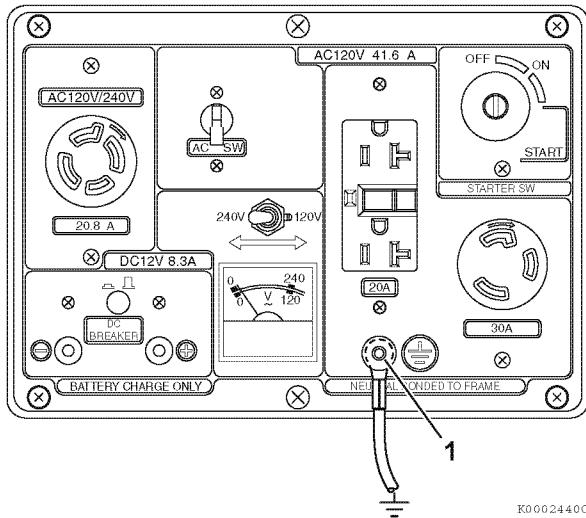

Figure 25
- Attach the ground wire to the grounding point (1, **Figure 25**). You must supply the ground wire and grounding point. These are not supplied with the generator. Follow the National Electrical Code and all state and local codes. Consult your power company or a licensed electrician.